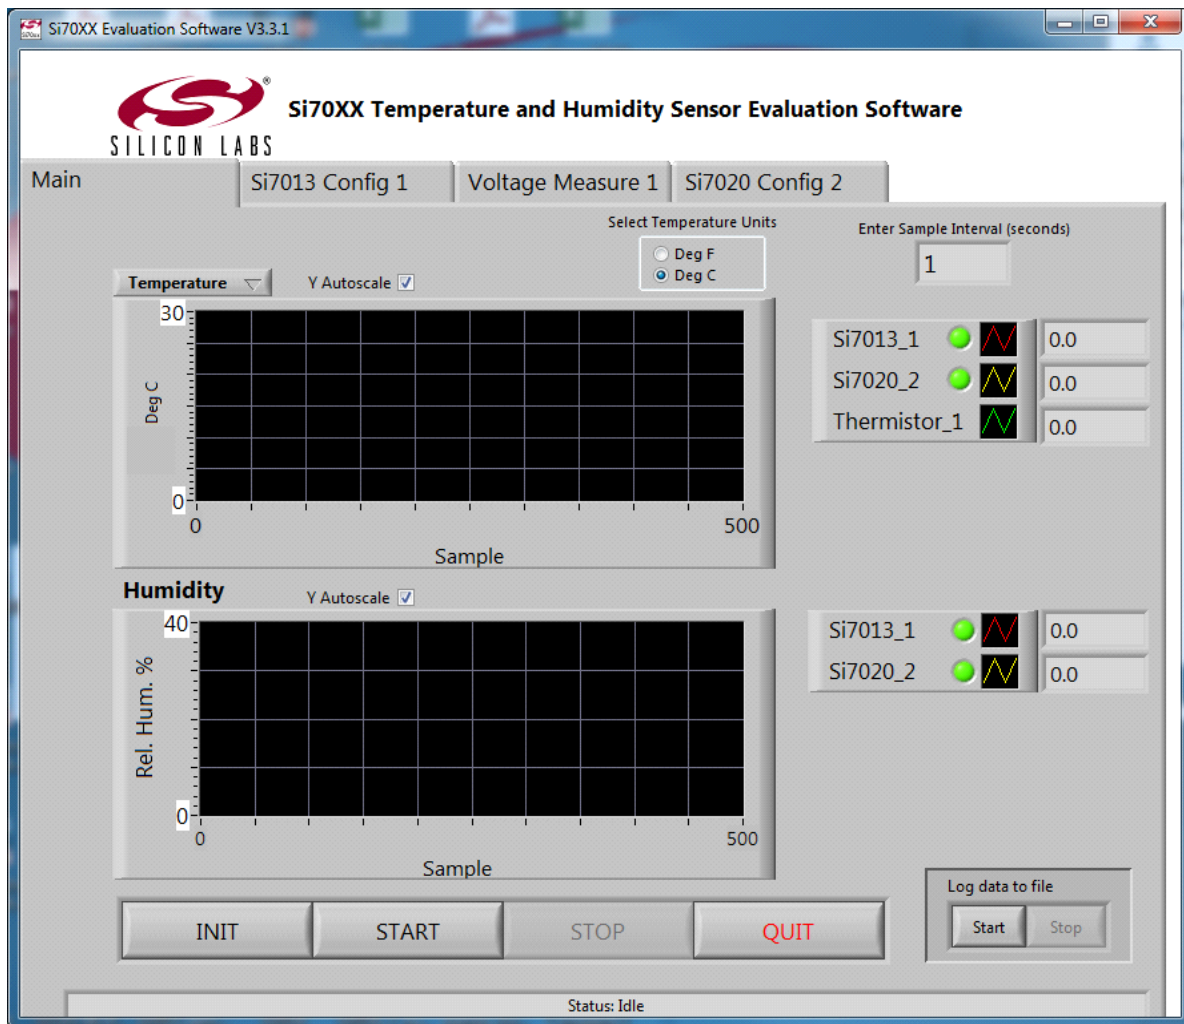
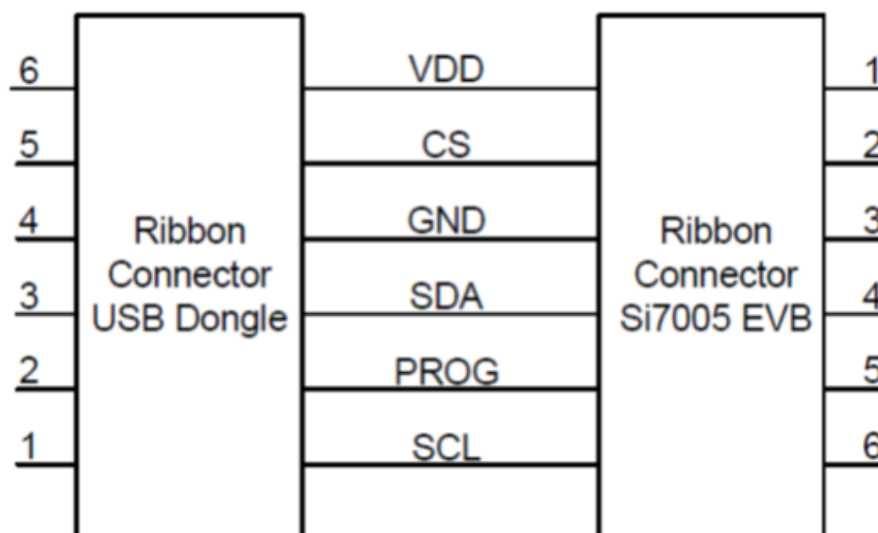

Figure 10. Voltage Measurement Screen
Figure 11. Ribbon Cable Pin Assignments
The USB Dongle facilitates communication between the Si7013 and the optional postage stamp size evaluation board and a PC. This function is enabled by the Silicon Laboratories' C8051F381 microcontroller. The optional postage stamp board is connected to connector J2 by a 6 wire flat flexible cable, The pin connections for connector J2 are shown in Figure 10. A full circuit diagram of the board is shown in Figure 11.
Note from Figures 11, 12, and 13, that there is no ground plane around the Si7013 and that there is a cutout in the PCB between the Si7013 and other circuitry. While these are not requirements for successful operation of the Si7013, they do (in the case of the dongle board) provide thermal isolation from heat sources, such as the host PC and MCU circuitry. There is also a second thermal cutout to provide isolation between the thermistor and Si7013.
- Updated Figure 10, "Voltage Measurement Screen," on page 9.